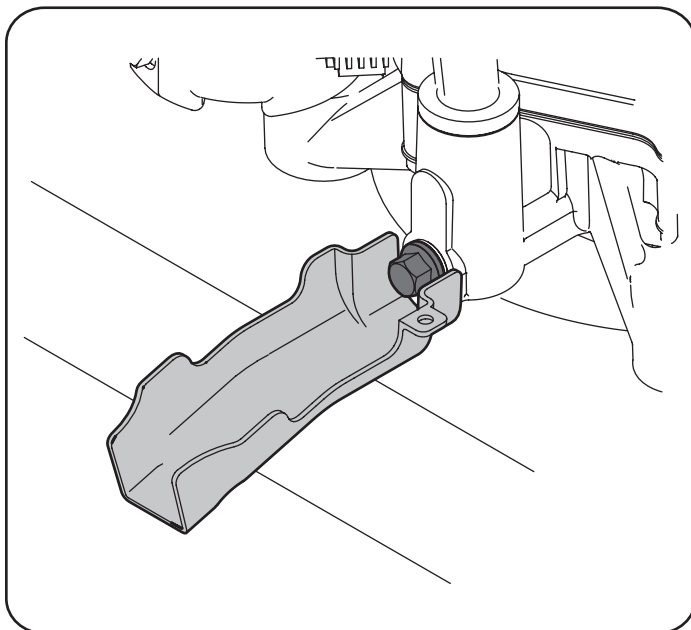

Figure 6
- Snap the small end of oil drain sleeve onto the oil sump. See Figure 6.